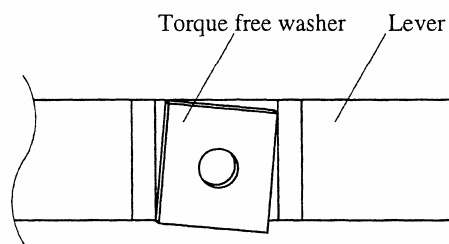

Fig. 14-2
- (d) Tighten the upper screw with the torque free washer touching the end surface of the lever to prevent the spring from rotating together. (Torque 20 kg•cm) (See Fig. 14-2 on page 15.)